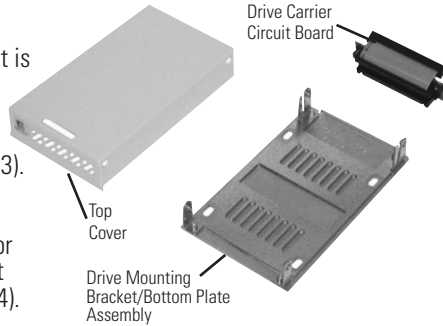

Figure 3: Drive Carrier Components
1. Loosen and remove the four (4) M3 Phillips Flat Hd. screws located on the sides of the drive carrier unit. Save these screws for Step 5.
2. Since the drive carrier unit is shipped pre-assembled, disassemble the drive carrier unit into its three main components (Figure 3).